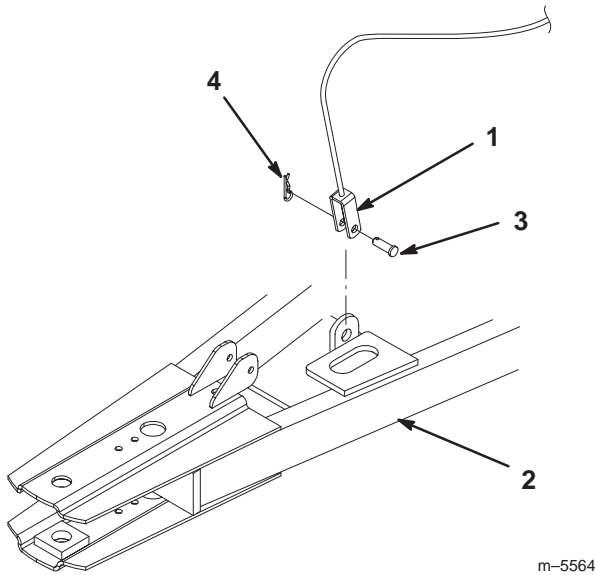

Figure 9
4. Connect the cable clevis to the blade assembly frame with a cotter pin and hairpin cotter (1-3/16 in.) (Fig. 9).